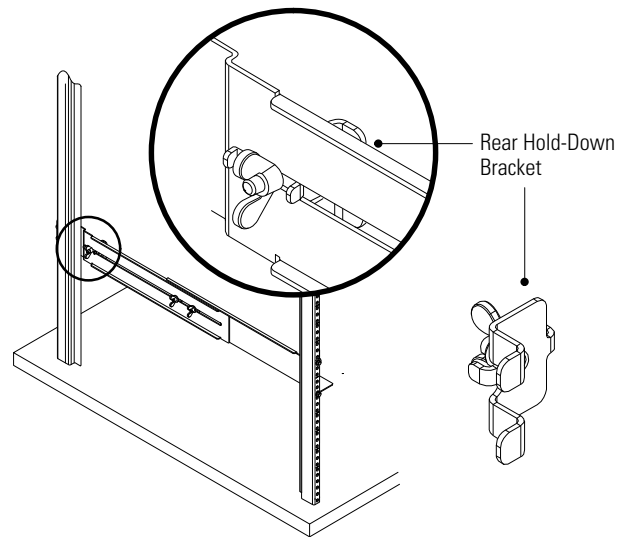

Figure 42. Securing the Back of the EBM
12. Attach the rear hold-down brackets to the rail and slide the brackets into the slots on the EBM rear panel (see Figure 42).